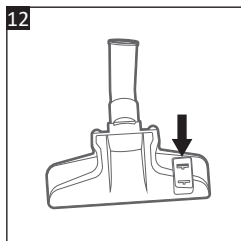

Fig. 12
The brushes of the floor brush (18) can be adjusted according to the floor type to be cleaned (Fig. 12).
- Press  on the Floor brush switch (17) to extract the brushes to clean hard floors that are not susceptible to scratching.
- Press  on the Floor brush switch (17) to retract the brushes to clean carpets, rugs or hard surfaces.